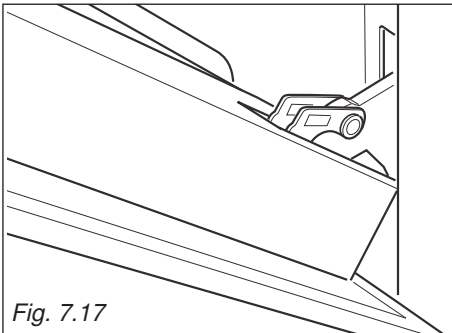

Fig. 7.17
1. Make sure the door is locked open (see fig. 7.17).